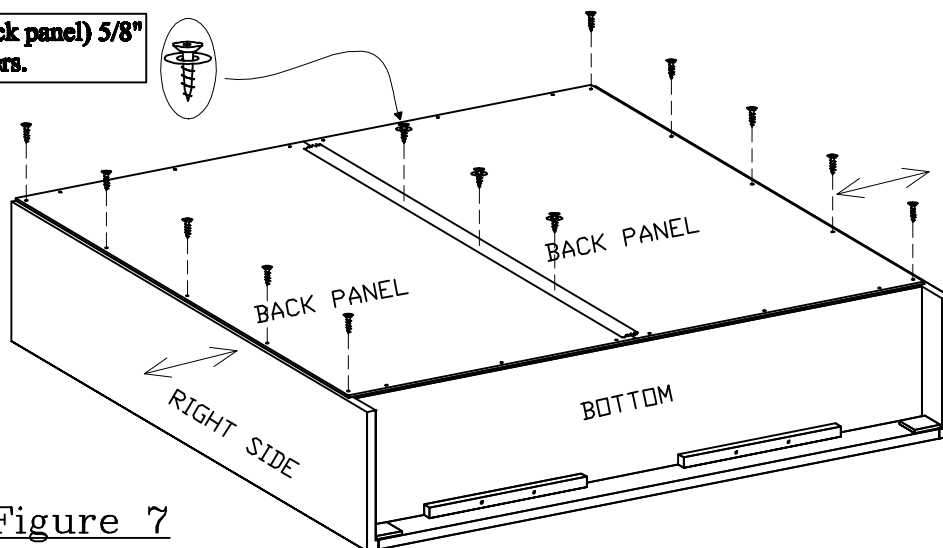

Figure 7
Step 26. The edges of the **SIDE PANELS** must be parallel with the edges of the **BACK PANEL**. If necessary, slightly push the **SIDE PANELS** in or out, in order to ensure an equal amount of space along the edges. See Figure 7.
Step 27. Insert and screw 5 screws along each side edge of the **BACK PANEL**. See Figure 7.
Step 28. Insert and screw 3 screws with washers along the tape. See Figure 7.